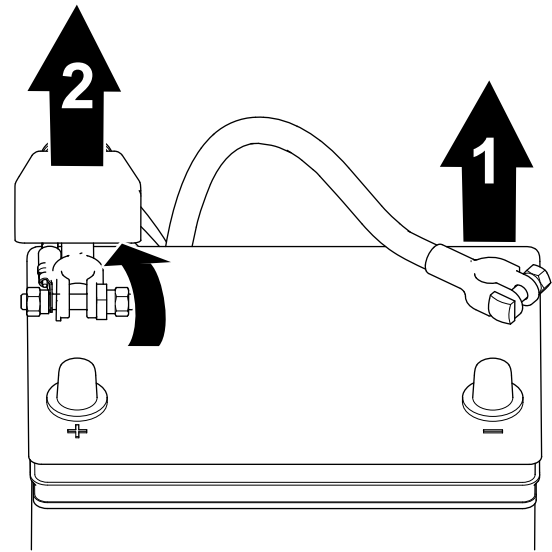

Figure 43
1. Remove the negative battery cable from the battery post (Figure 43).
2. Lift the insulator and remove the positive battery cable from the battery post (Figure 43).